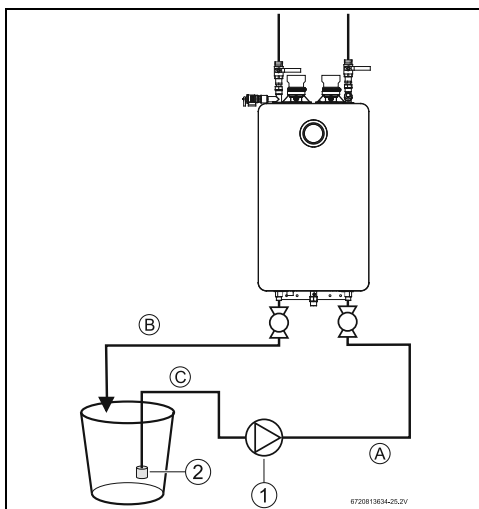

Fig. 51
- ▶ Connect a line (A) from the outlet of the circulating pump (installer supplied) to the inlet drain connection on the water heater (see fig. 51.)
- ▶ Using another line (B), connect the outlet drain connection on the water heater. Route the other end of this line into a descaling reservoir.
- ▶ Using a 3rd line (C) from the descaling reservoir, connect to the inlet side of circulating pump. Install a filter on the end of the line in the descaling reservoir.